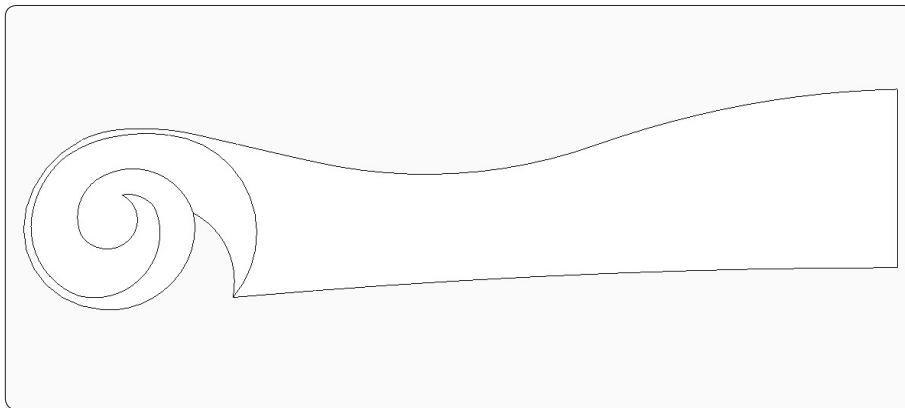

Figure 30. The full-size template for the crest rail, with the volute carving drawn at the end.
Step 7 Create the full-size template for marking out the blank lumber in preparation for steam bending. Set the camera to Parallel Projection and Front View and print the template. You can add the volute carving with the Arc Tool, as shown in Figure 30. I typically add the carving details to mark the bent top rail in preparation for carving